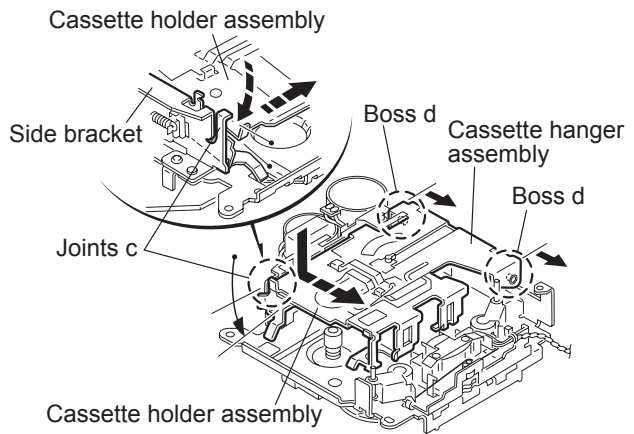

Fig. 4
2.2.3 Removing the cassette hanger assembly / cassette holder (See Fig.4 to 7)